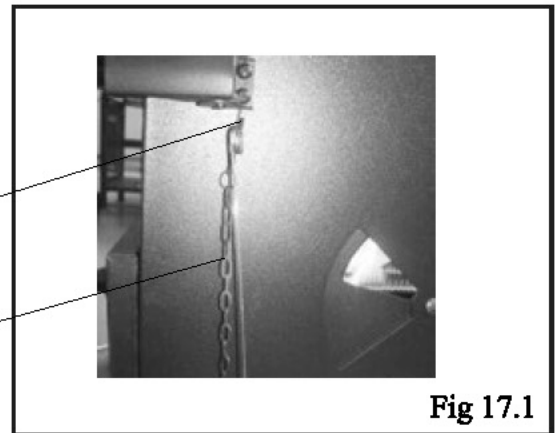

Fig 17.1
2. When lighting rod not in use, put it on the match clip hook. Fig 17.1